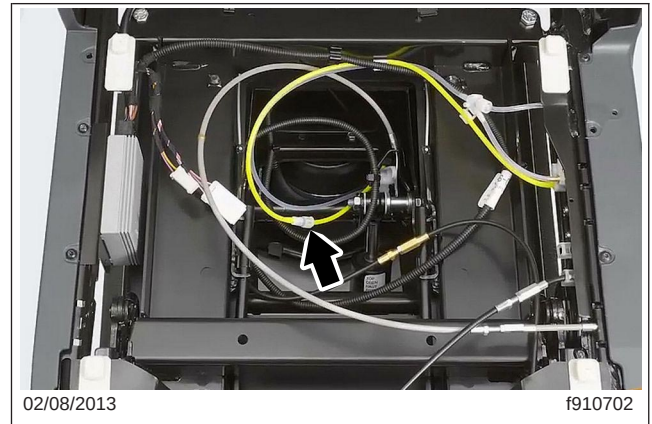

Fig. 2, Connector, Yellow Air Line
6. Using a small flat-head screwdriver, disconnect the yellow air line to the air spring at the connector. See Fig. 2.